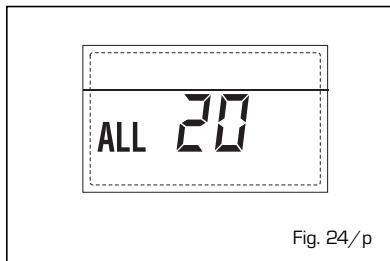

Fig. 24/p
- **ANOMALIA GUASTO SONDA MANDATA PRIMA ZONA MISCELATA "ALL 21"** (fig. 24/q)